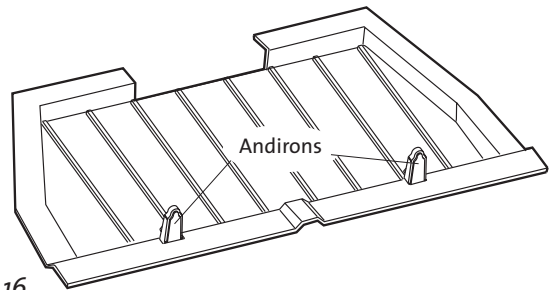

Figure 16.
- Load the fuel, usually with smaller logs first. **Keep logs behind the andirons.** See fig. 16.